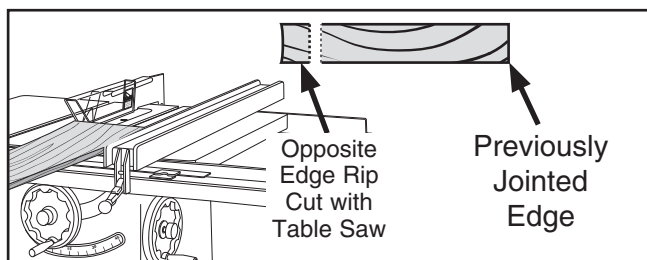

Figure 43. Rip cutting on a table saw.
2. Place jointed edge of the 2x4 against the table saw fence and rip cut just enough off the opposite side to square up the two edges of the 2x4, as shown in **Figure 43**.